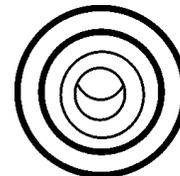

Figure 44. Pre-Heat Lamp
3. Depending on the temperature of the coolant (cold weather conditions), the pre-heat lamp (Figure 44) will light **(ON)** and remain on until the pre-heating cycle has been completed. After completion of the pre-heating cycle, the light will go **OFF** and the engine will start up automatically.